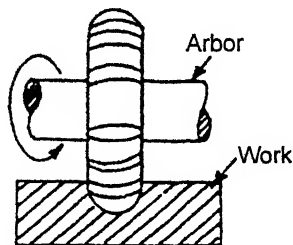

Fig. 10.51. Form milling.
**4. Form milling.** This milling process (Fig. 10.51) is used for machining those surfaces which are of *irregular shapes*. The form milling cutter used has the shape of its cutting teeth conforming to the profile of the surfaces to be produced.